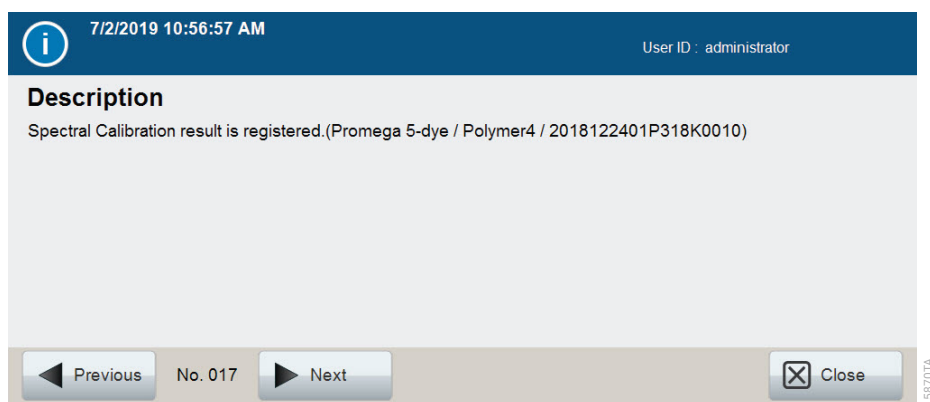

Figure 116. 'Operation Detail' screen.
3. Select a specific Operation Log in the list followed by **Details** (becomes active after selecting an Operation Log) at the bottom of the screen to review the details of that specific log (Figure 116).